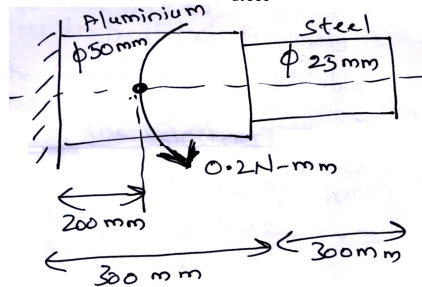

Fig.Q6(b) (10 Marks)
b. For the composite stepped shaft as shown in the Fig.Q6(b). Determine the shear stresses in the aluminium and steel shafts. Take  $G_{\text{steel}} = 87 \text{ GPa}$  and  $G_{\text{aluminium}} = 28 \text{ GPa}$ .